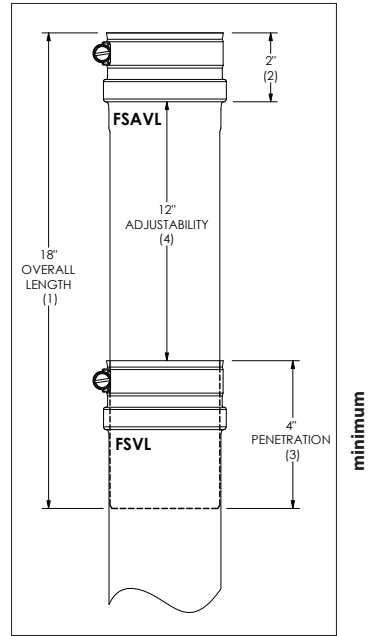

Figure 1 (single-wall)
Use the FSAVL vertically for easy adjustment of the required minimum 1/4" per foot pitch. Technical details about the stand alone FSAVL (see Figure 1 & 1a): The overall length of all FSAVL Adjustable Vent Length is 18" (1). The female end (2) measures 2", leaving 12" to telescope into a standard vent length.